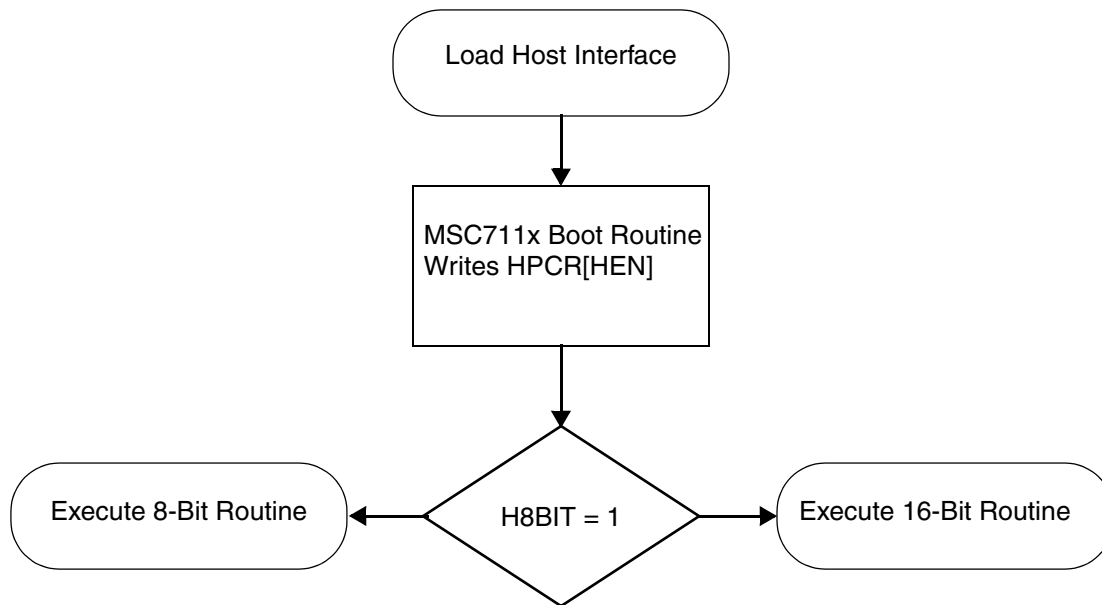

Figure 4. Host Port Size Configuration Check
1. The boot loader routine enables the HDI16 port by setting the HPCR[HEN] bit and checks the value of HPCR[H8BIT] to determine which port size the host is using (see **Figure 4**).